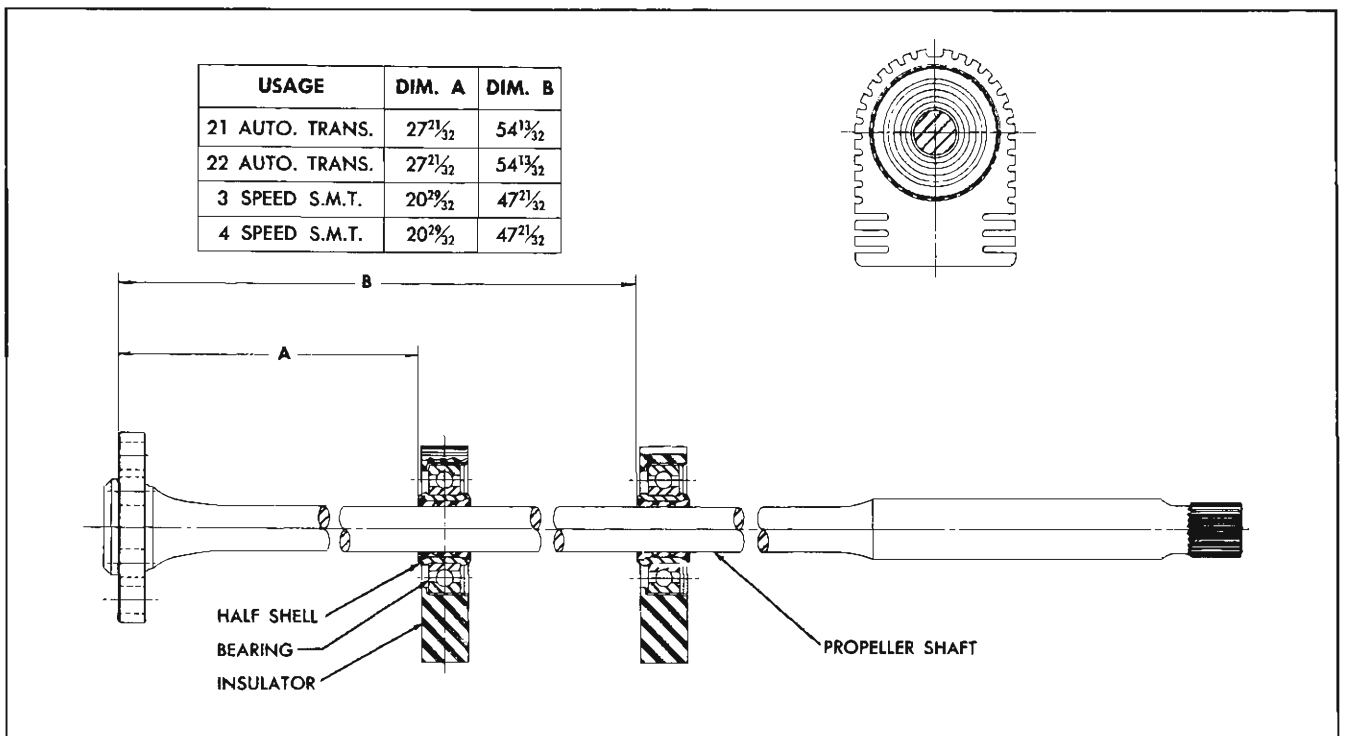

Fig. 4-22 Location of Bearings on Shaft
1. Position bearings and insulators on shaft, as shown (Fig. 4-22).